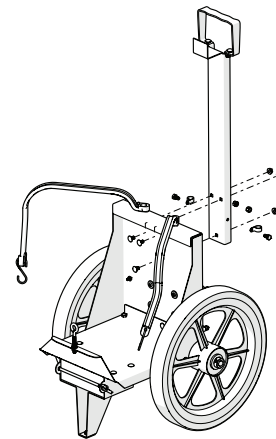

Figure 2: Installing handle mount and handle
2. Use three carriage bolts, 1/4-20 x 1/2", grade 5 (a), and three 1/4" flange nuts (b) for attaching the handle mount and hose holder (c) to the LGX5P base (d) as seen in (Figure 2).
4. To install the loom clamps (e Figure 2) Route hoses through the loom clamps (e) before fastening the loom clamps to the handle mount (c) (Figures 2 & 4). Mount using two MRI024*12 (f) and two NNC1024 (g).